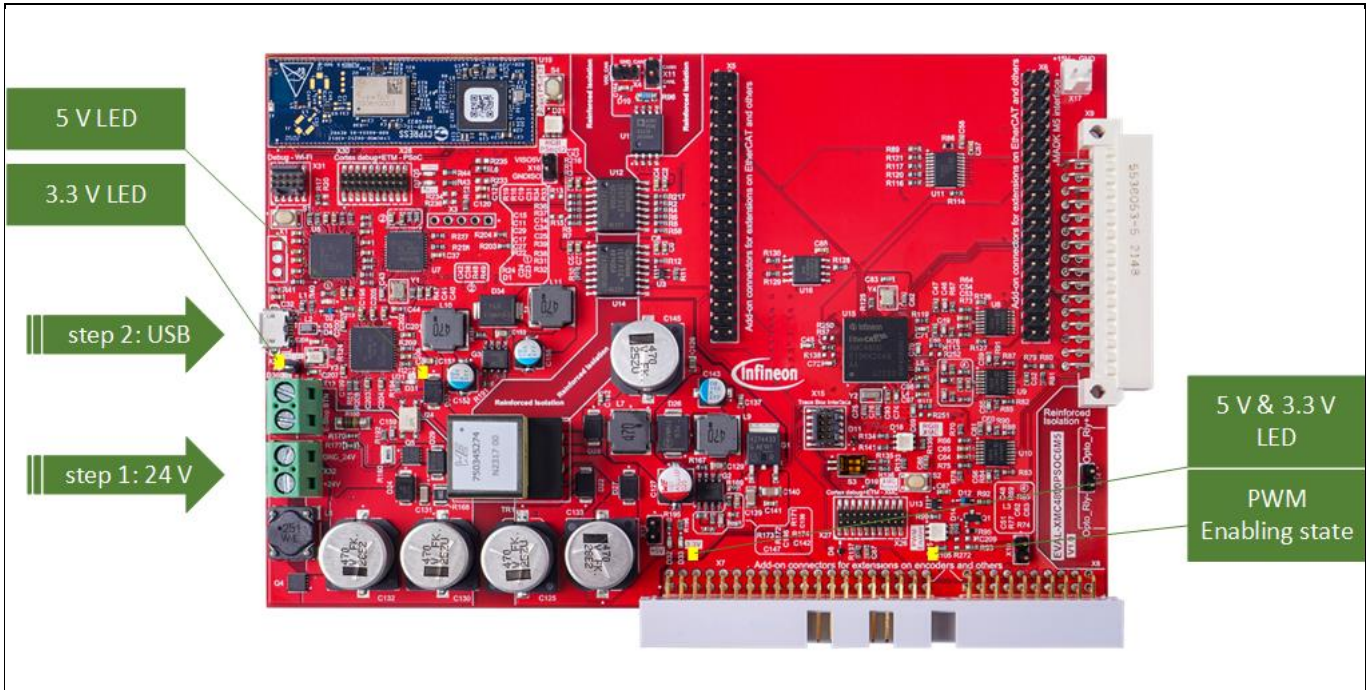

Figure 4 Hardware connection
For the initial hardware setup only the board, a PC or laptop with ModusToolbox™ environment, a USB cable, and a 24 V DC laboratory power supply are required (see Figure 4). Follow these steps:
3. Power on the 24 V power supply. LEDs, as shown in the Figure 4, light up.